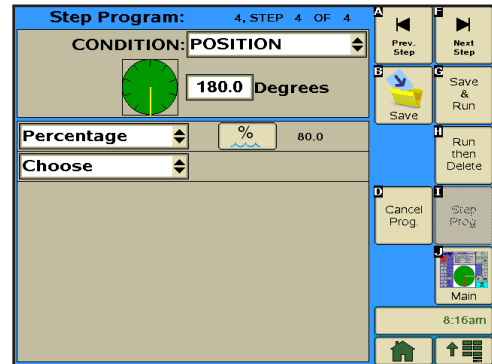

Figure 132-1
14. Program the position condition for this step. Refer to Figure 132-1.